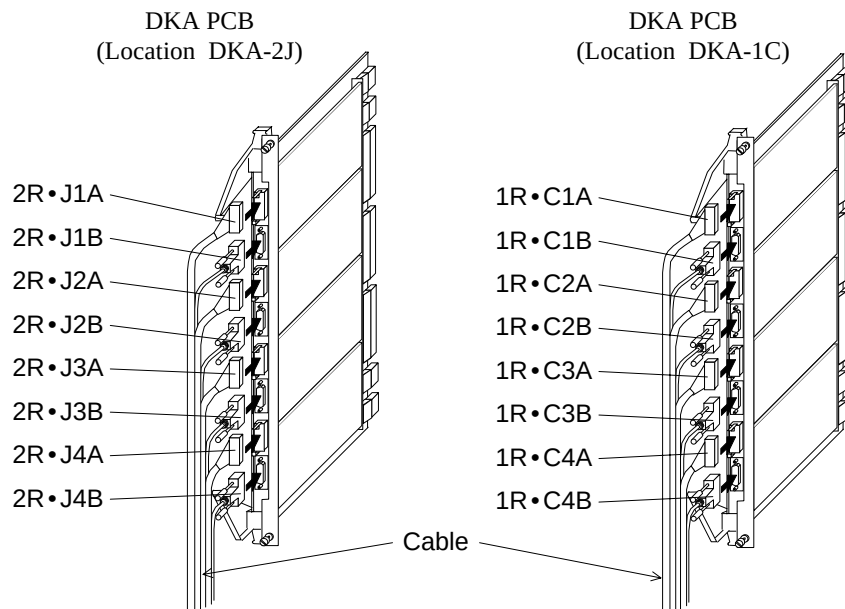

Fig.3.11.6-10 Connection of cable (Add.1)
a. Connect the cables to the sub-edge of PCBs. (Refer to Fig. 3.11.6-10.)